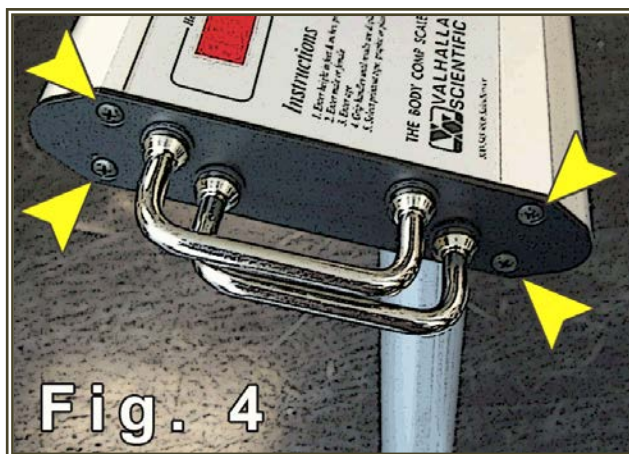
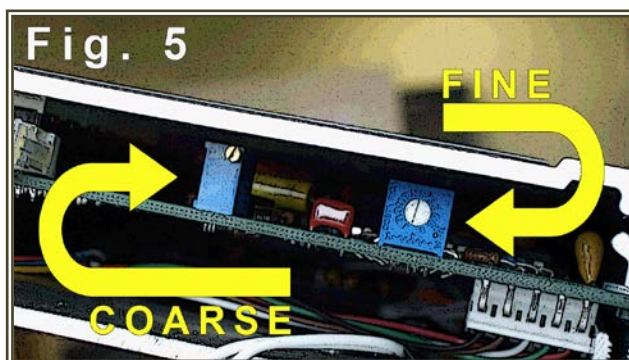

Fig. 4
Fig. 5
1. Remove 4 screws from the left side of the control panel (fig. 4). Facing the scale from the left side, you will see 2 screws inside the panel (fig. 5).